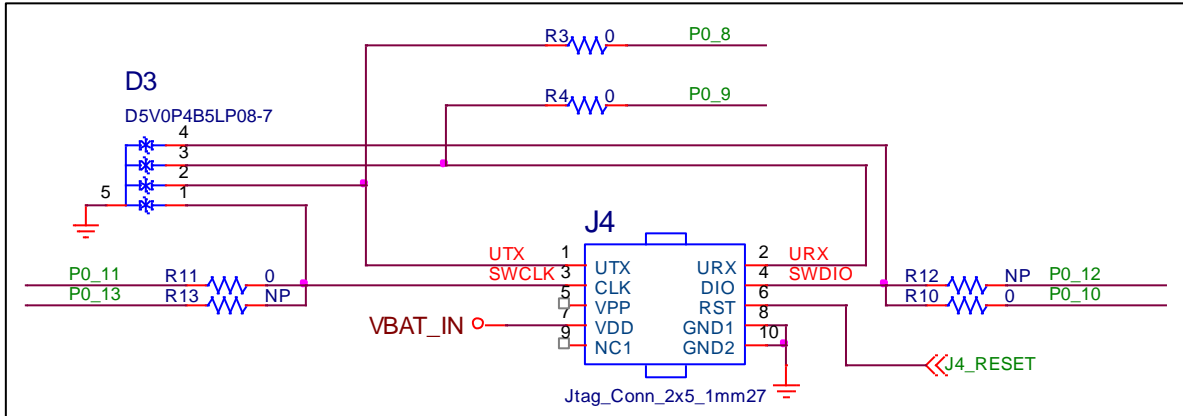

Figure 12: CIB Debugging Header
- CIB debugging connector (Figure 12):